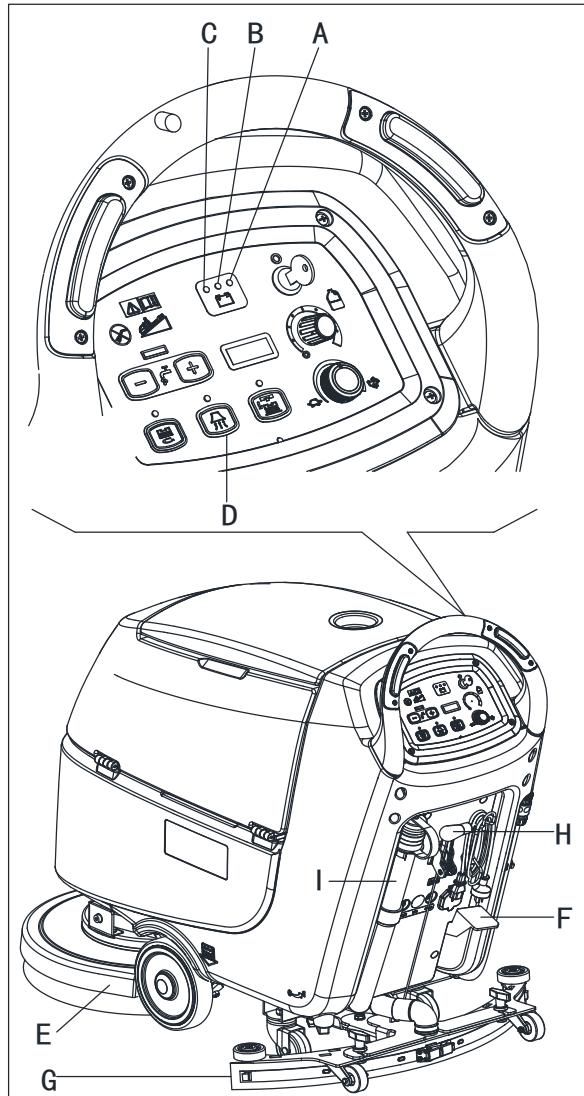

Figure 12
Until the green warning light (A, Figure. 12) stays on, the batteries allow the machine to work normally. When the green warning light (A) turns off, and the yellow warning light (B) turns on, it is advisable to charge the batteries, because the remaining charge will last for a few minutes (depending on battery characteristics and work to be performed). When the red warning light (C) turns on, batteries are fully discharged. After a few seconds, the brush/pad-holder is automatically turned off, while (only for machine with traction) the drive system stay on, to finish drying the floor and drive the machine to the appointed recharging area.
If the vacuum system turns off accidentally (for example, when the float is activated because of a sudden machine movement), to resume the operation: turn off the vacuum system by pressing the switch (D, Figure. 12), then open the cover (C, Figure. 13) and check that the float inside the grid (A) has gone down to the water level. Then close the cover (C) and turn on the vacuum system by pressing the switch (D, Figure. 12).
2. Lift the brush/pad-holder deck (E, Figure. 12) by pressing the pedal (F). (only for disc machine)
3. Lift the squeegee (G) with the lever (H).